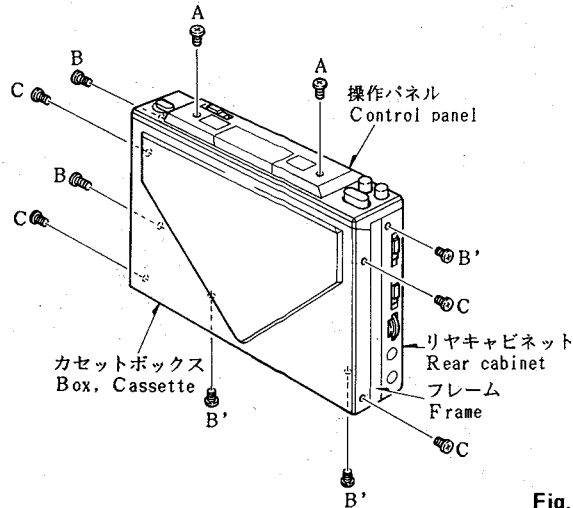

Fig. 1
1) Remove the external parts. (See Figure 1)
(See Figure 1)
- 1) Set so the main circuit board can be stood up following the procedure in 1. 1)–3). (See Figure 1. 3)